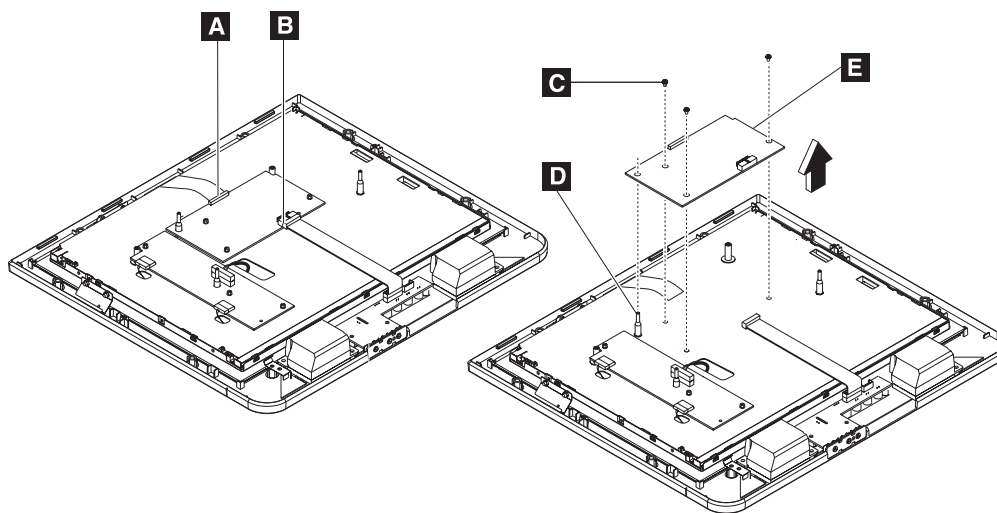

Figure 26. Removing the front panel card
3. See Figure 26. Disconnect the speaker connections from the card (**E**).
- Touch cable (see **A** in Figure 26 on page 42)
- Control card cable (see **B** in Figure 26 on page 42)